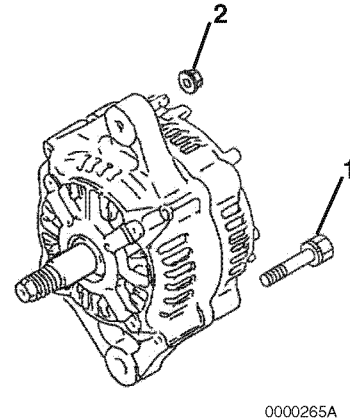

Figure 11-8
- Remove the two bolts (Figure 11-8, (1)) and two nuts (Figure 11-8, (2)) securing the rear frame housing to the front frame housing.